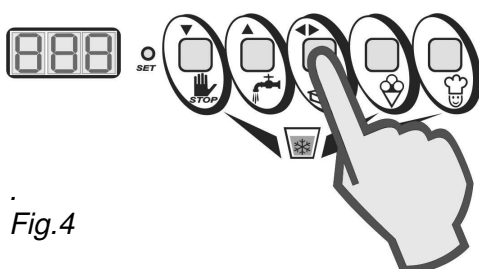

Fig. 4
6. If you do not wish to change the value of the selected step, press **"AGITAZIONE (MIXING) (▲)"** to directly access the following step (Fig. 4).